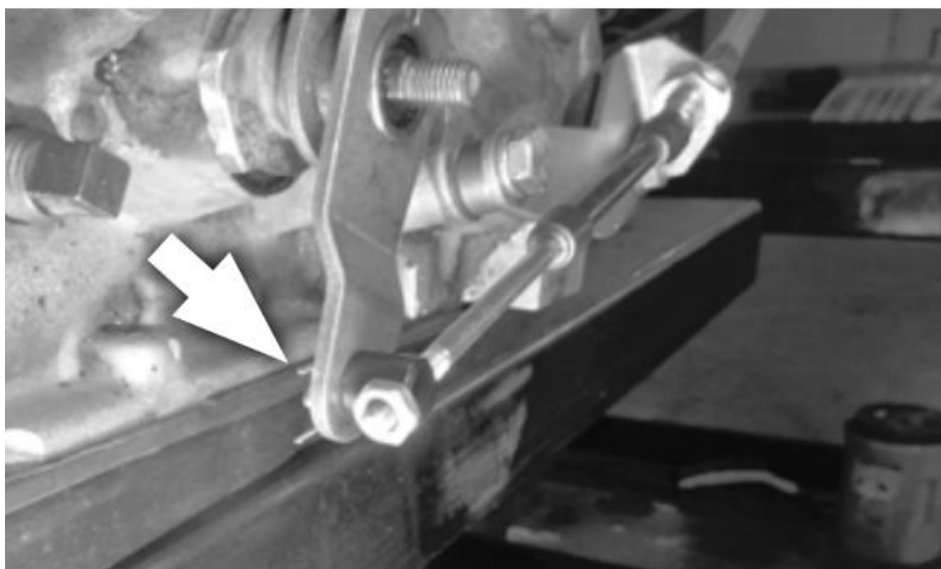

Figure 23
38. Secure the swivel to the selector lever with the cotter pin. Operate the shifter through all the gear positions, verifying that it operates correctly (figure 23).